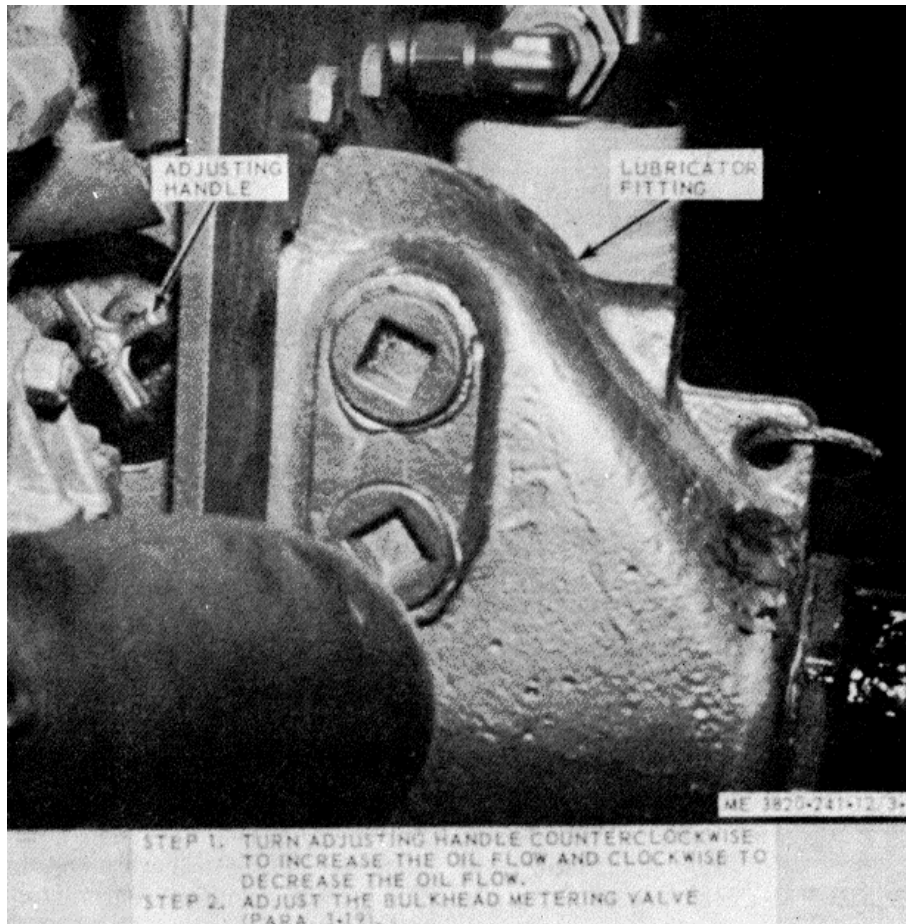

Figure 3-7. Air line lubricator fitting adjustment.
d. Adjust the lubricator fitting as illustrated in figure 3-7.